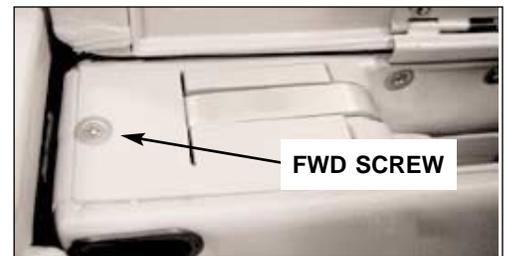

FIG. 312:
- (9) Remove IAT table compartment fairings by removing fwd screw (see fig. 312).